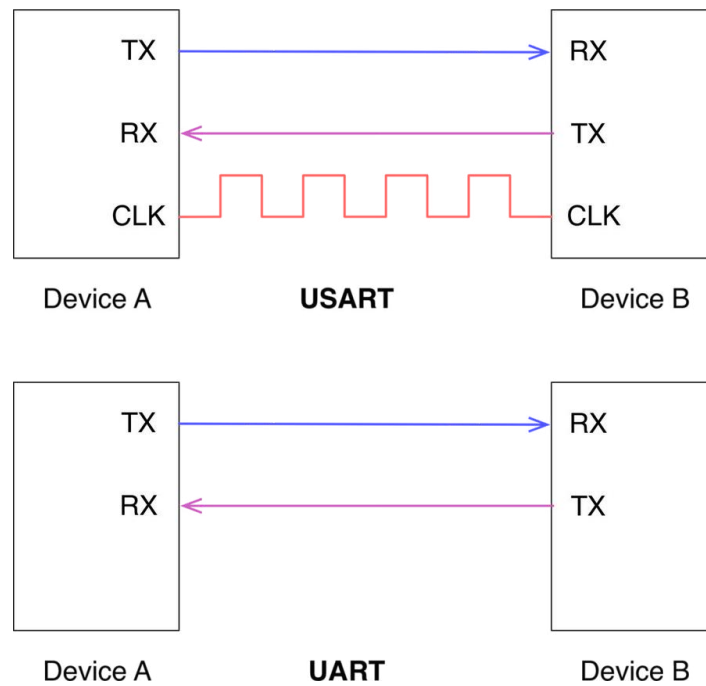

Figure 3: The signaling difference between a USART and a UART
A *Universal Synchronous Receiver/Transmitter* interface is a device able to transmit data word serially using two I/Os, one acting as transmitter (TX) and one as receiver (RX), plus one additional I/O as one clock line, while a *Universal Asynchronous Receiver/Transmitter* uses only two RX/TX I/Os (see **Figure 3**). Traditionally we refer to the first interface with the term **USART** and to the second one with the term **UART**.